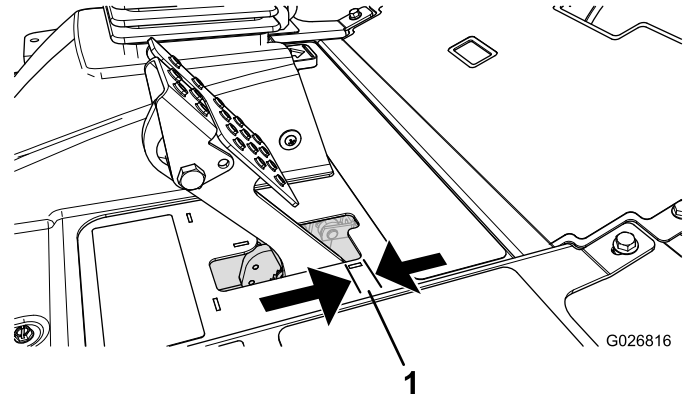

Figure 68
Adjust the brakes when there is more than 25 mm (1 inch) of free travel (Figure 68) of the brake pedal, or when more holding force is required. Free travel is the distance that the brake pedal moves before you feel braking resistance.
2. Tighten the rear nut to move the cable backward until brake pedals have 6.3 to 12.7 mm (1/4 to 1/2 inch) of free travel (Figure 68), before the wheel locks up.